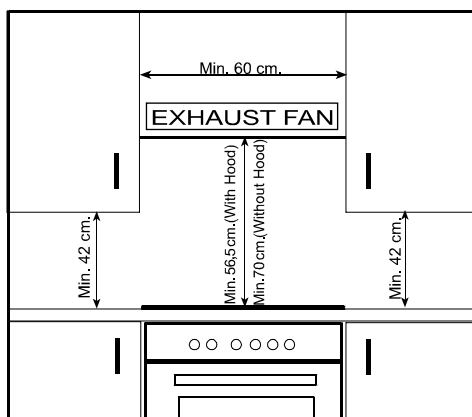

Figure 1
- Required changes to wall cabinets and exhaust fans above the built-in combined product as well as minimum heights from the oven board are shown in Figure 1.